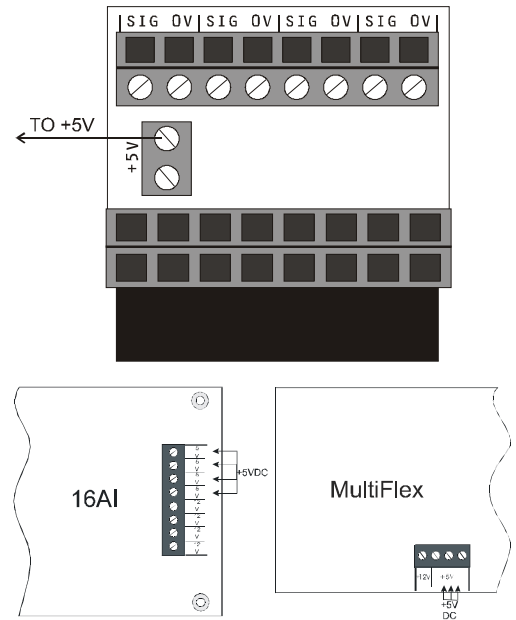

Figure 3 - Power Wiring
- Connect one of the two +5VDC terminals on the adapter to a +5V power output on the MultiFlex (located at the bottom of the MultiFlex board) or 16AI (located on the right-hand side of the board). The two terminals are tied together, so you will only need to connect one terminal to the +5V power source. You may use the second terminal to "daisychain" multiple adapters to the same +5V power source (see **Figure 3 - Power Wiring**). **DO NOT GROUND EITHER OF THE +5V TERMINALS.**